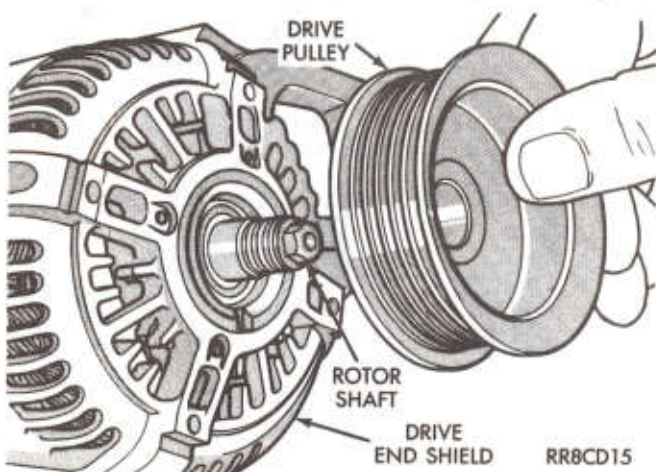

Fig. 14—Remove or Install Drive Pulley
(9) Remove the drive pulley from the rotor shaft (Fig. 14).